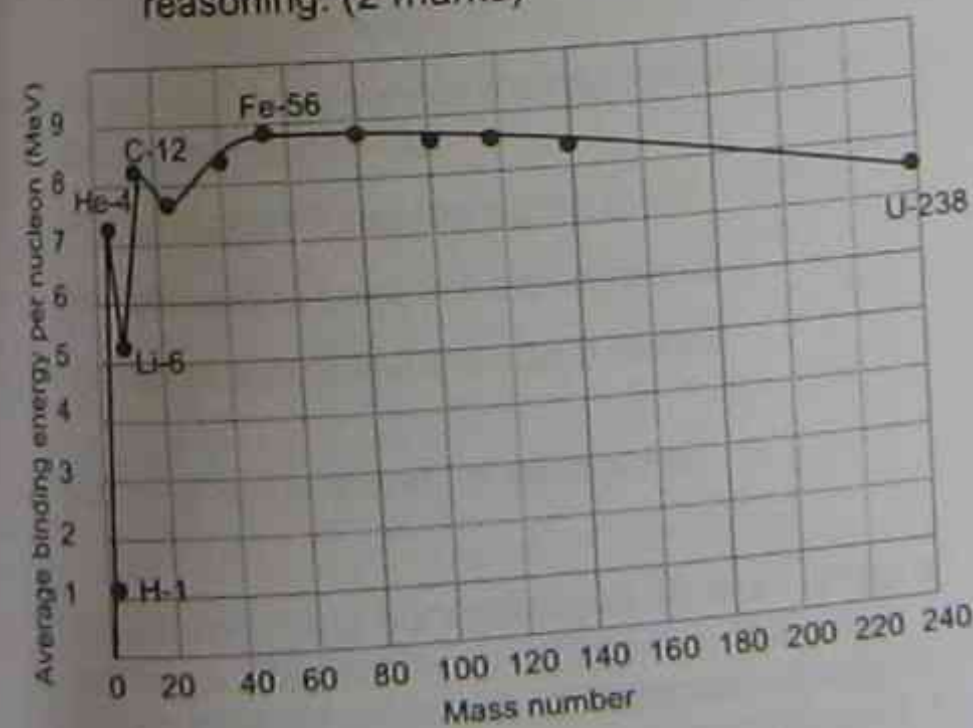

Figure 6.35
- (e) Figure 6.35 shows a graph of the binding energy per nucleon versus mass number for the elements.